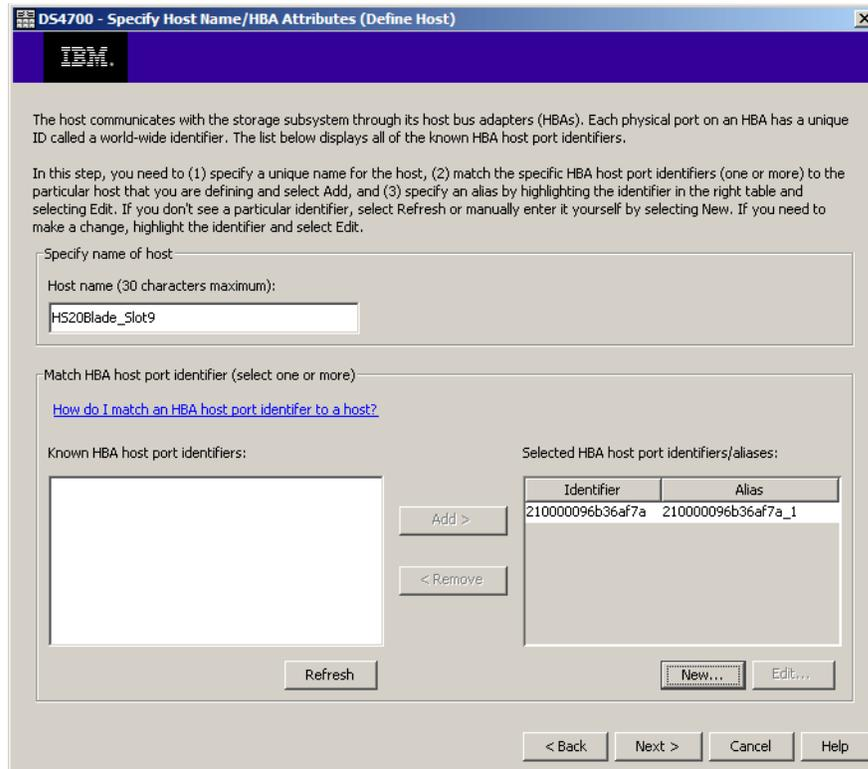

Figure 10-22 Define name and host port
- d. Fill in the host name, select the first host port on the HS20 BladeServer, and click **Add**, as shown in Figure 10-22.